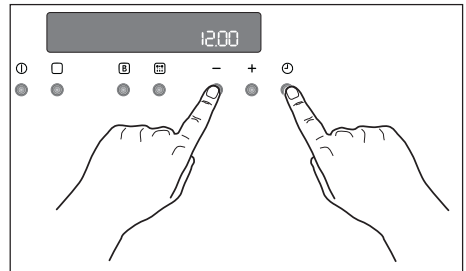

Fig. 15
2. Press the  and “—” buttons at the same time. A short acoustic alarm will be heard and the time 12:00 will appear in the display (Fig. 15).